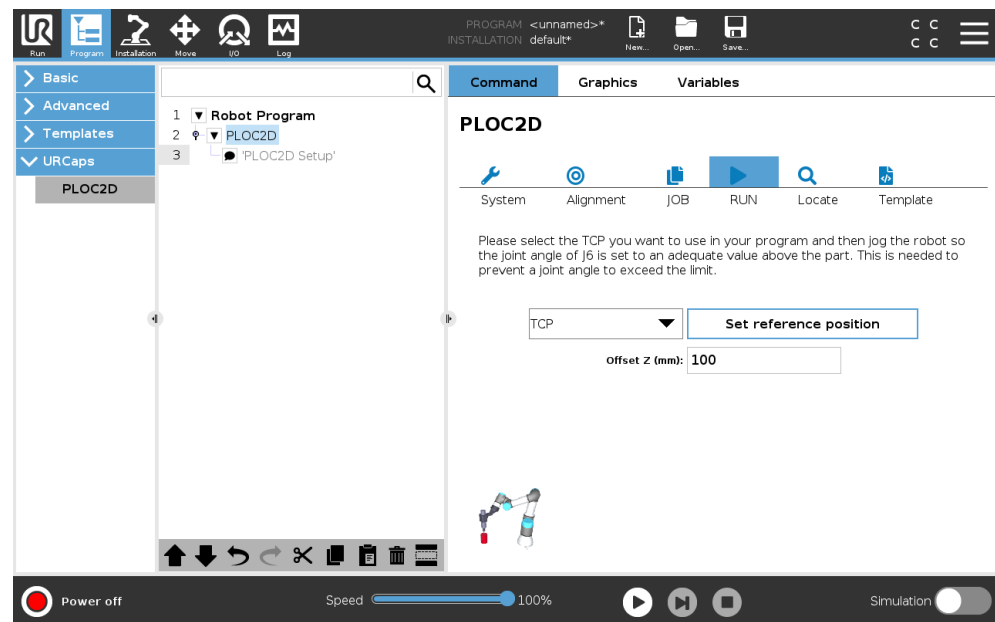

Figure 13: UR Robot user interface, run configuration
1. Select the tool to be used in the **TCP** list, see figure 13, page 15.